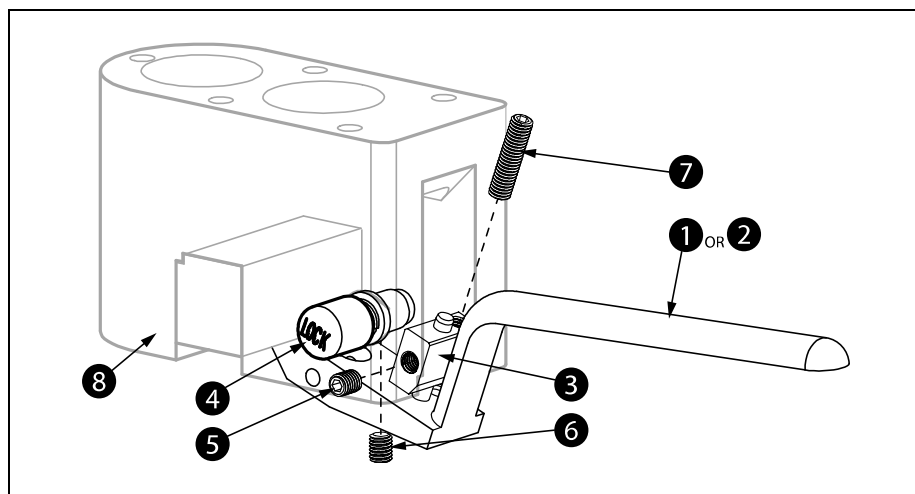

Figure 24 – Main valve locking system
Refer to Figure 24 below and proceed as appropriate.
Refer to Figure 24 and proceed as follows:
- Undo the side grub screw (Figure 24, Item 5) using a 2.5mm hex key.
- Slide the Locking adjuster (Figure 24, Item 3) by spinning clockwise or counterclockwise the long grub screw (Figure 24, Item 7) as much as needed (as long as the locking adjuster can be safely secured to the guide pin). Same 2.5mm hex key can be used. The deeper the long grub screw is set, the wider the main blast will be opened. It is recommended to apply a drop of Loctite 222 to this grub screw before final setup. Once the desired setup is achieved, side grub screw (Figure 24, Item 5) is to be tightened. Again, it is recommended to apply a drop of Loctite 222 to this grub screw.
- by removing the button assembly (Fig 24, Item 4) after undoing the grub screw (Fig 24, Item 6)
- by removing the adjuster (Fig 24, Item 3)